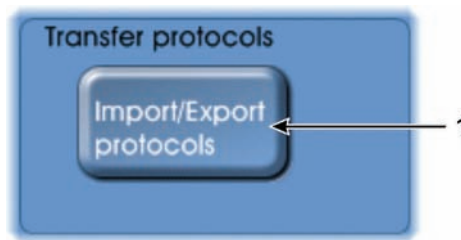

Figure 152: Transfer protocols area with Import/Export protocols button (1)
3. Select the **Import/Export protocols** button from the "Transfer protocols" area of the file transfer screen (see Figure 152).